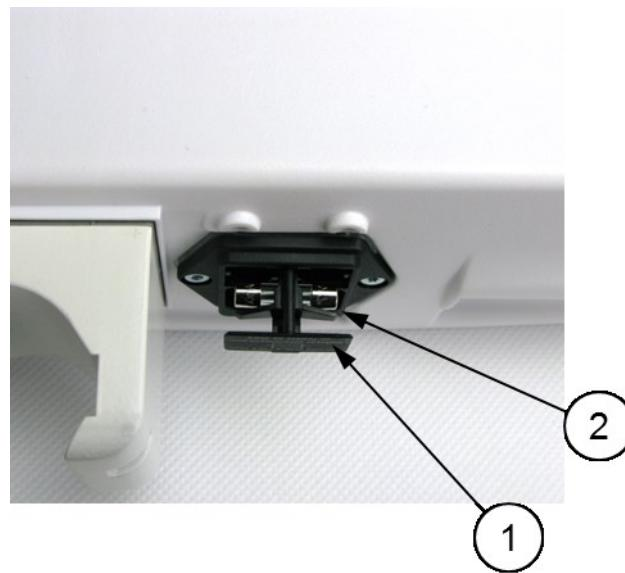

Fig. 34. Fuse replacement – Fuse drawer
2. Pry and pull out the **Fuse drawer (1)** as shown in **Fig. 34**.
3. Take out and check the **T 0,5A 250V fuse (2)** showed in **Fig. 34** (possible damage: visible mechanical damage burned wire or measured discontinuity of the circuit).
4. If the **T 0,5 A 250 V 5x20 mm fuse (2)** (see **Fig. 34**) is damaged, replace it with a new one.
5. Push in the **Fuse drawer (1)** (see **Fig. 34**) and check the operation of the device by performing the basic tests (see chapter **10.5** (p. 38)).